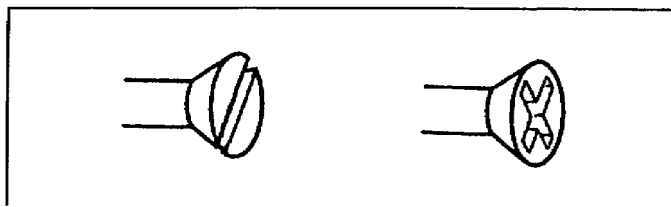

Figure 1-33. Slotted and Phillips head
a. **Phillips Head.** Screws are usually either slotted-head or Phillips head (Figure 1-33). Phillips head screws require a special screwdriver for driving them. Some advantages of Phillips head screws are that the screwdriver does not slip out easily and that the head is not as apt to break as that of a conventional type screw.